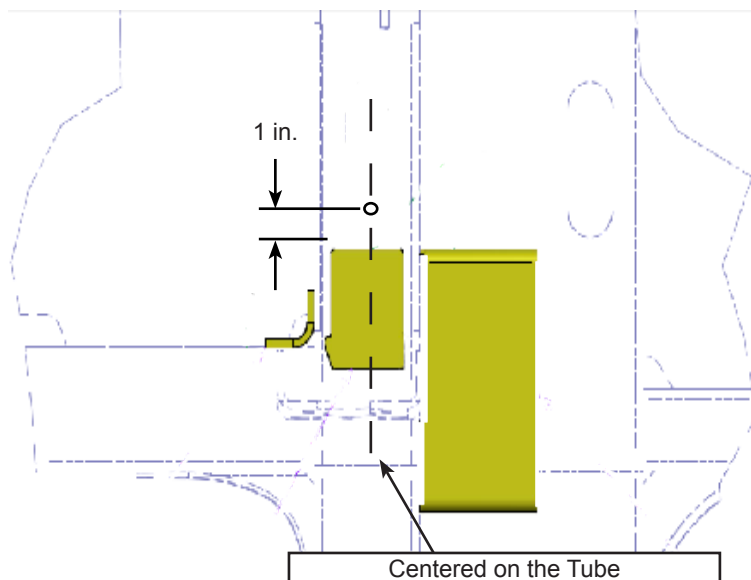

Figure 16 - New Ground Location
- 1.26. Make tack welds on the head of bolt N24104 to replace the previously cut ground stud. See Figures 16 and 17. The position shall be approximately 1 in. above the plate N71119 and centered on the tube. The tack welds should be on alternate corners of head bolt. This gives a total of 3 tack welds. During the tack weld operation the dimension from opposite corners should not be reduced by more than 20%.